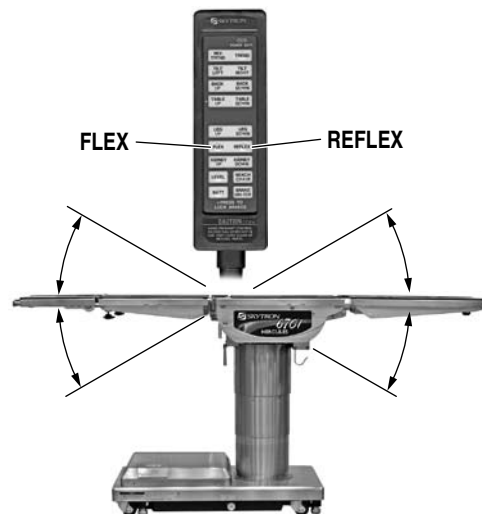

Figure 2-11. Flex/Reflex Positioning
g. Flex Positioning. To place the table top in a flex position from horizontal, press the FLEX button (figure 2-11). To return the table top to a horizontal position or into a reflex position, press the LEVEL or REFLEX button.